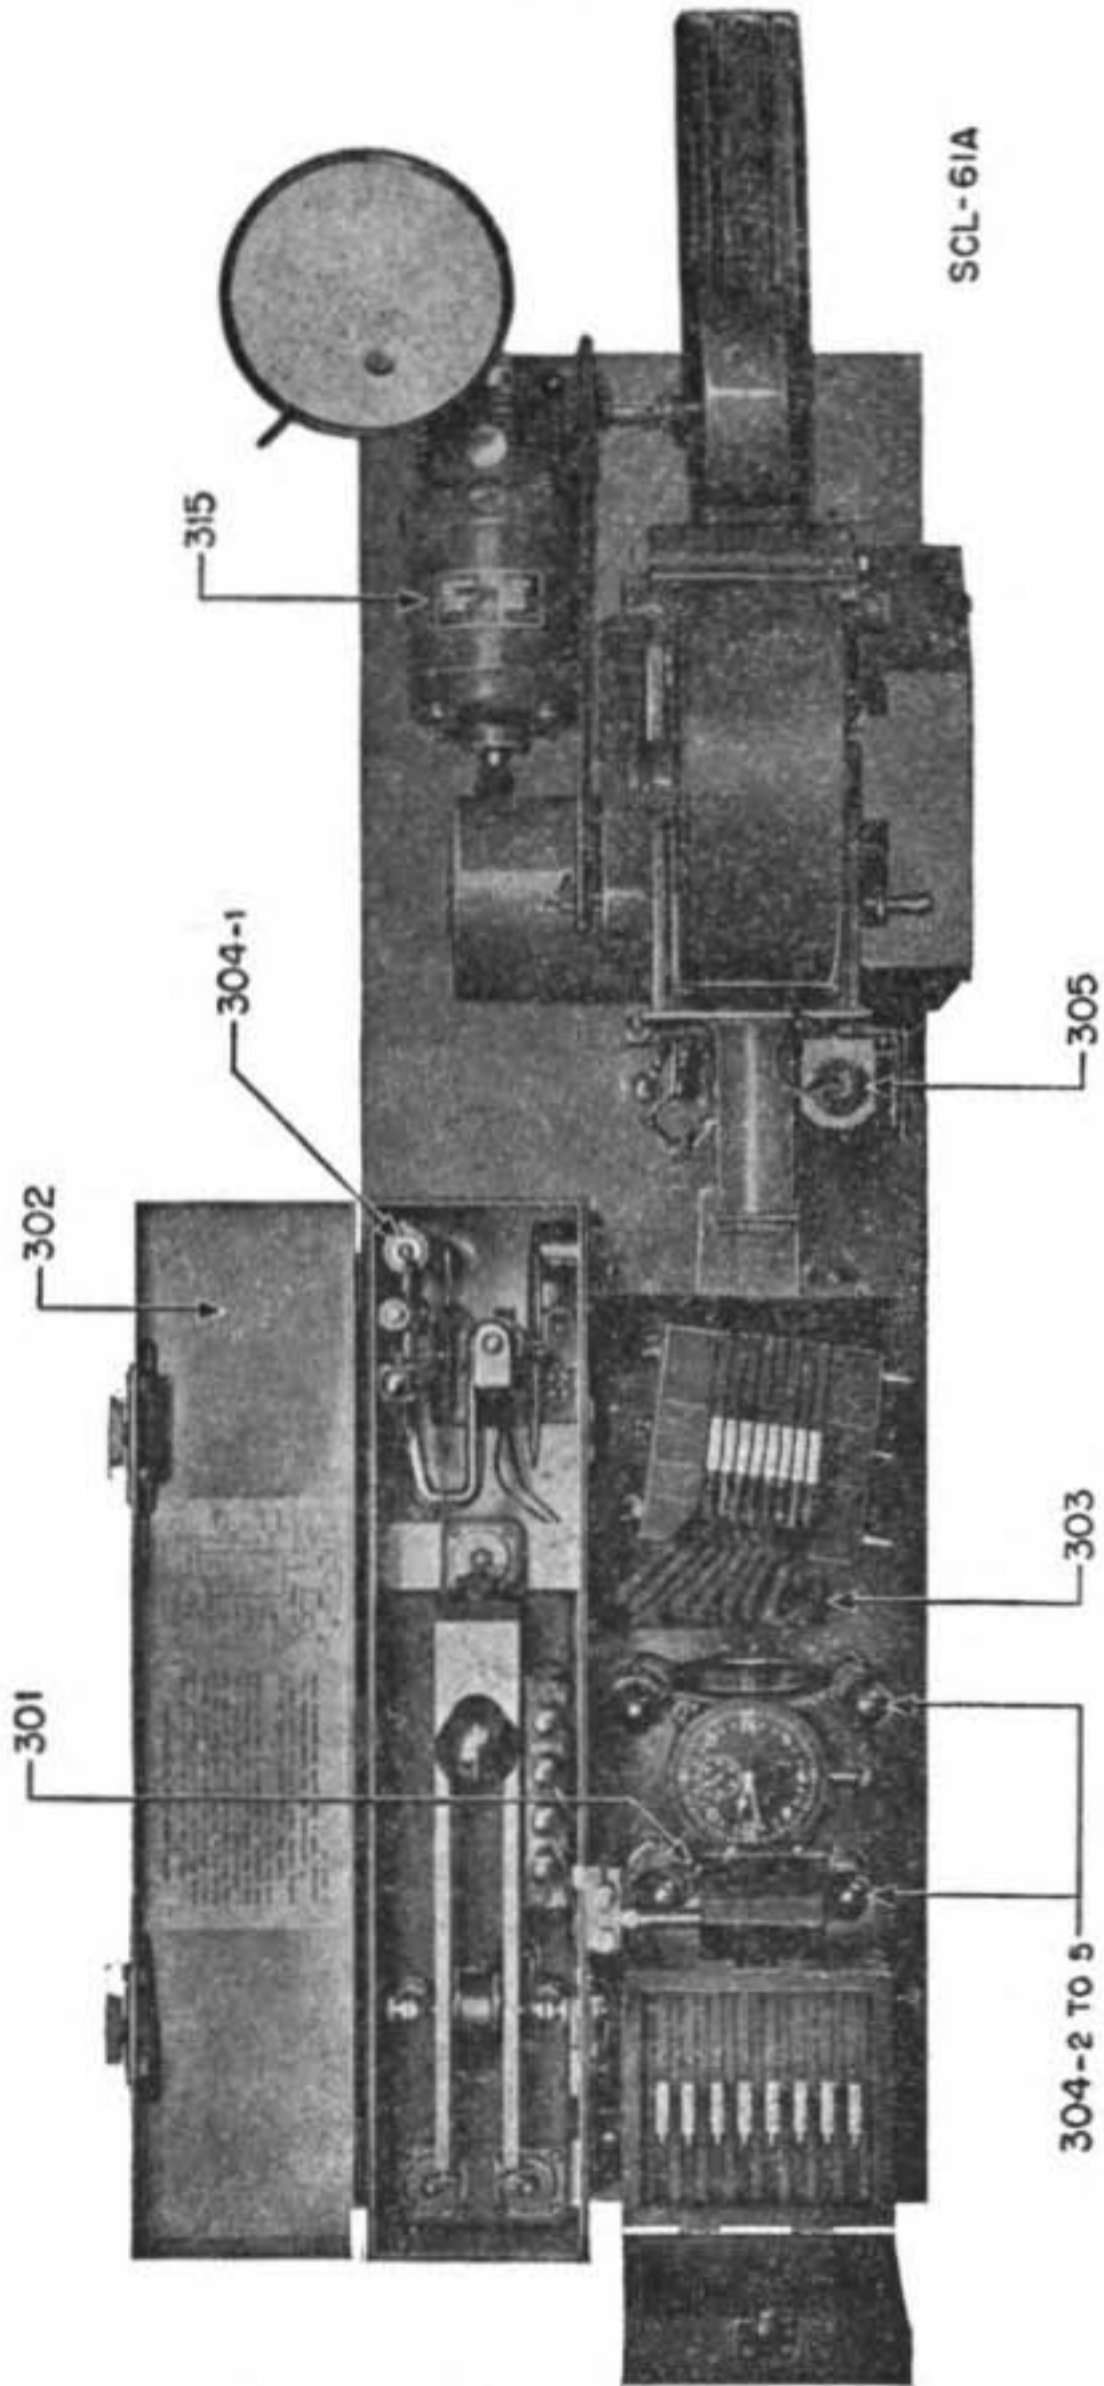

Figure 2.—Oscillograph Equipment IE-14-(*)—top view with covers removed.
(1) Oscillograph Equipment IE-14-(*) includes the framework and equipment mounted on its upper portion (figs. 2 and 3). This equipment consists of the timing unit, the galvanometer magnet, the identification panel, suitable lamps and optical system, the automatic camera with magazine, the fixing tray, and covers to prevent entrance of stray light. An operating panel is located on the lower front part of the equipment.